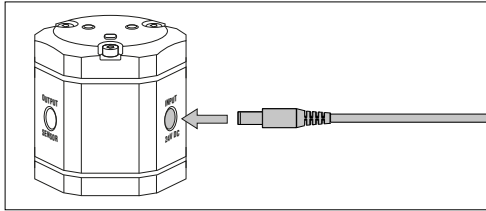

Fig. 6: Connecting the power supply to the TempoLink® smart assistant
Connect the barrel connector for the power supply ② to the “INPUT 24 VDC” port on the TempoLink® smart assistant (Fig. 6).